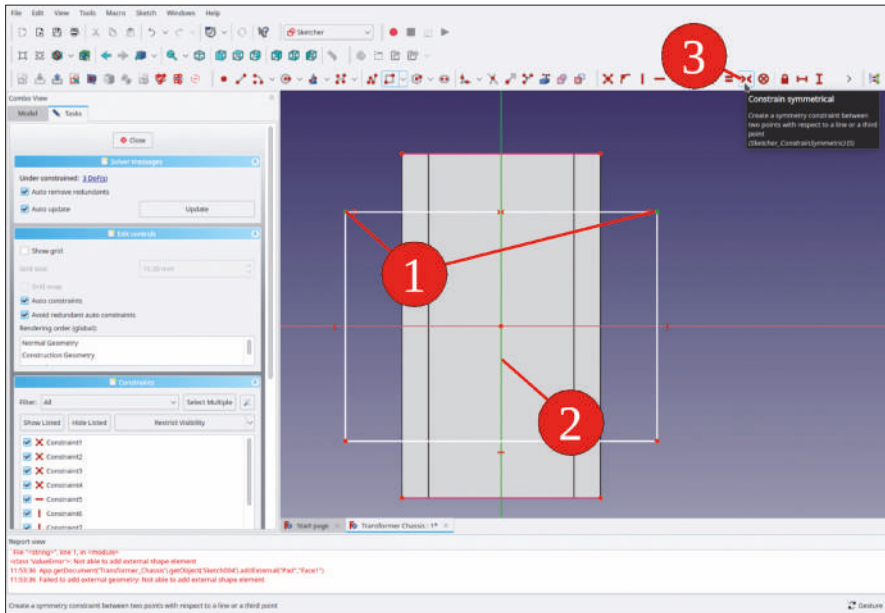

Figure 9-69
5. Draw a rectangle. Mark two corners that are on equal height. Mark the Y-axis and then, click the 'Constrain symmetrical' tool button (Figure 9-69).